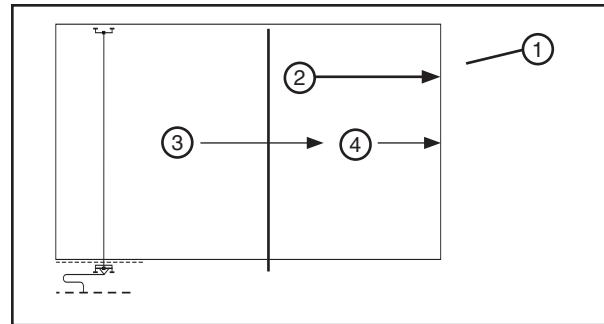

Figure 39-1 1. Field 2. Direction of Travel 3. Wet Deep 4. Wet Shallow
1. The percentage timer is set at the desired application rate, the system is started at one end of the field, and run wet (irrigating) to the middle of the field. See figure 39-1.
2. At the middle of the field the percentage timer is set to 100% and the system continues to run wet to the other end of the field. See figure 39-1.